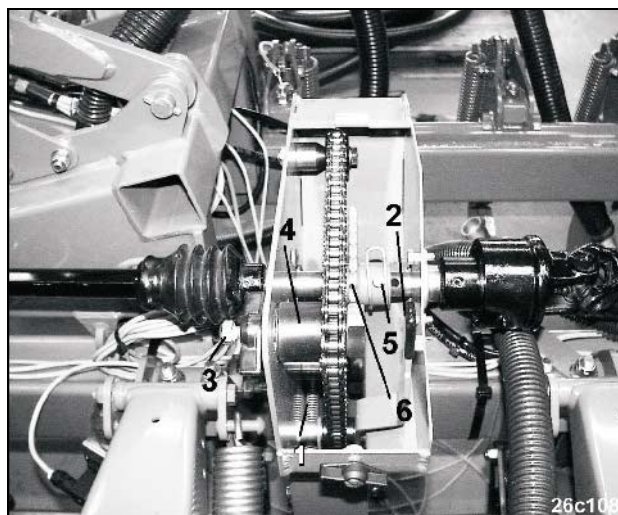

Fig. 115
- Release tensioning spring (Fig. 115/1) using the lever (Fig. 115/2)
- Slacken thumb nut (Fig. 115/3)
- Move the tensioning roller along the slide block (Fig. 115/4)
- Take circlip (Fig. 115/5) off the hole
- Move the step chain wheel on the drive shaft (Fig. 115/6) and locate the chain on the relevant chain wheel.
- Apply circlip (Fig. 115/5) and secure
- Locate the tensioning roller (Fig. 115/4) in it's earlier position
- Secure thumb nut (Fig. 115/3)
- Tension the tensioning spring (Fig. 115/1) using the lever (Fig. 115/2) .